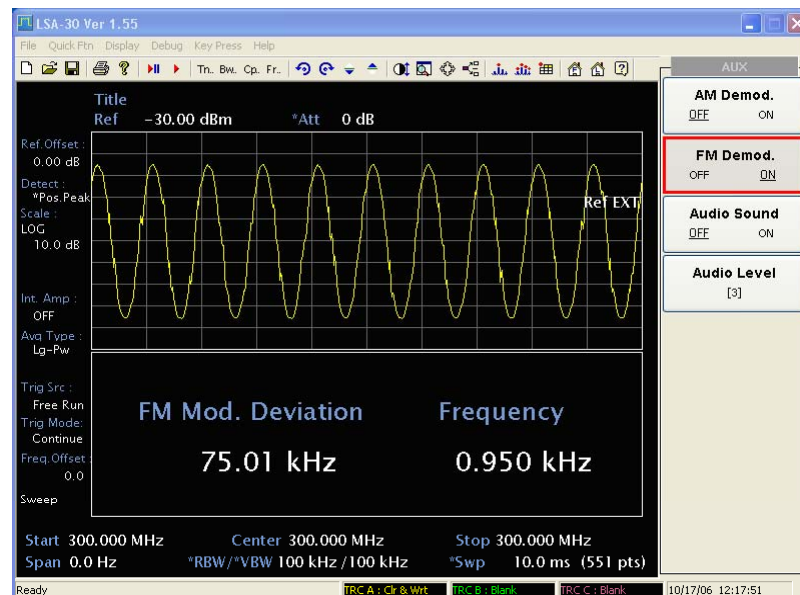

Fig. B-27 Measuring modulation using FM demodulation function
- 7 Adjust the sweep time by pressing [Sweep], [*Sweep Time*] 10 ms. See Fig. B-27.